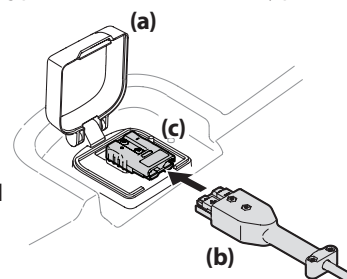
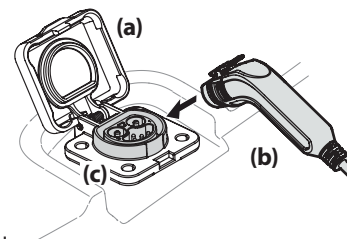

Figure 11
Figure 12
1. Lift the charge port cover (a). See Figure 11 for Style 1 (725-07253) and Figure 12 for Style 2 (T56XXX Series Chargers).
2. Insert the charging cord (b) into the charging port (c). See Figure 11 for Style 1 and Figure 12 for Style 2.